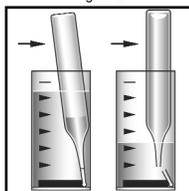

Figure 3
3. Immediately place the ampoule, tip first, into the sample cup and snap the tip. The ampoule will fill leaving a bubble for mixing (fig 3).